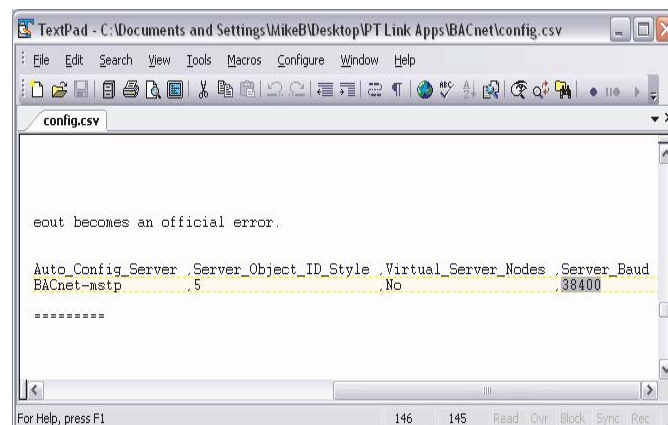

Figure 19: Changing the Baud Rate in Notepad
13.) If the server baud rate needs to be changed, go to the ‘Connections’ section and only change the SERVER_BAUD (**Figure 19**). Possible Baud Rate values are (9600, 19200, 38400, 76800). The default Baud Rate is 38400. You can obtain this information from your BAS Integrator.